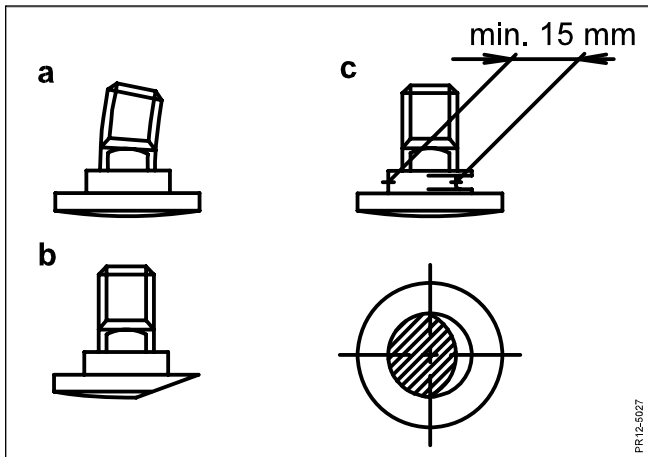

Fig. 5-6
- Fig. 5-6 Blade bolts must be replaced if: